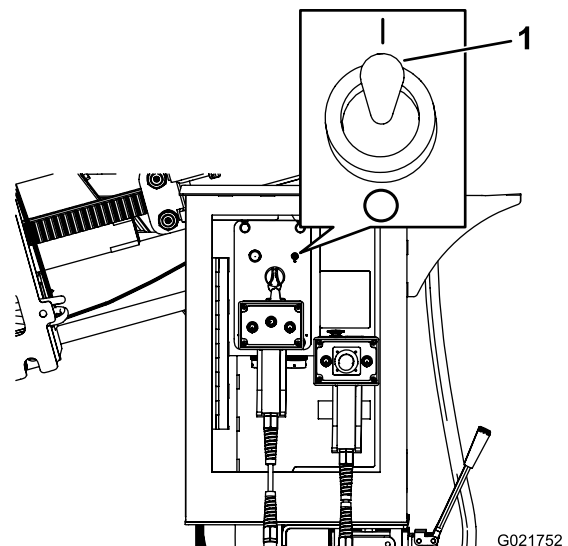

Figure 158
6. Turn the spray-hose attachment switch to the On position (Figure 158).